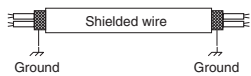

Fig. 4-4
- Use shielded wires for inter-unit control wiring (c) and ground the shield on both sides, otherwise misoperation from noise may occur. (Fig. 4-4) Connect wiring as shown in Section "4-3. Wiring System Diagram".